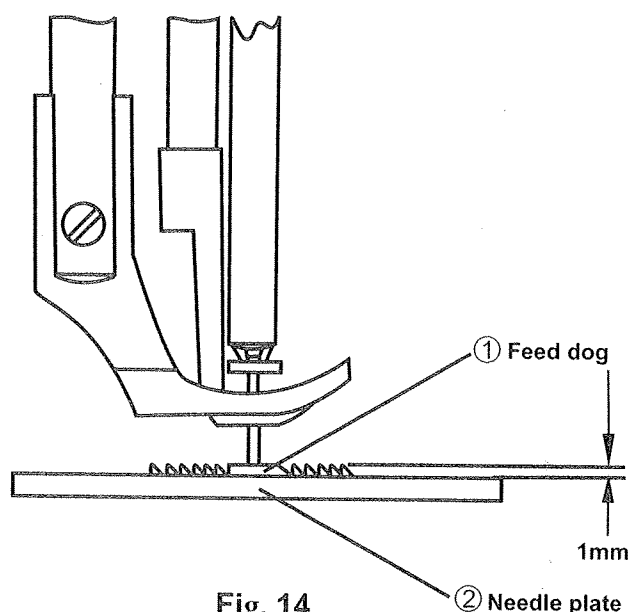

Fig. 14
The maximum height of the feed dog(①, Fig. 14) from the surface of the needle plate (②, Fig. 14) is normally 1mm.